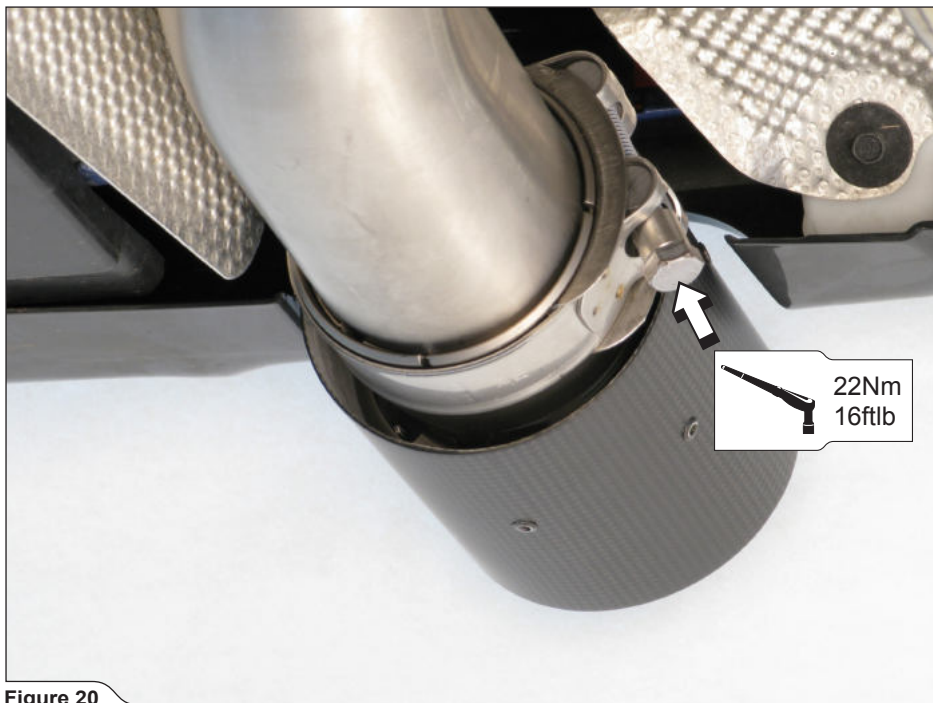

Figure 20
11. Tighten tail pipes' clamps to the specified torque (**Figure 20**).